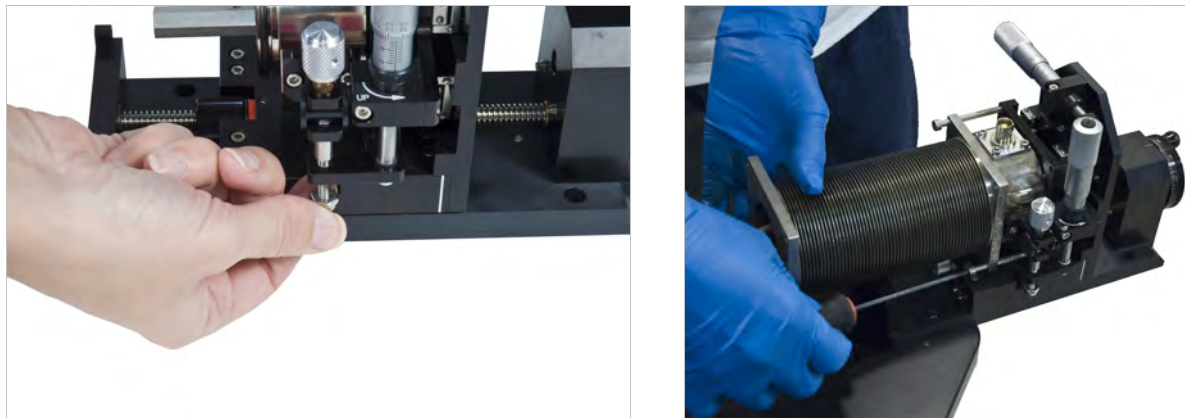

FIGURE 5-25 Left: Thread the nut onto the bottom of the shaft; Right: Tighten the four long horizontal M4 screws
6. Using small pliers or an adjustable wrench, thread the nut onto the bottom of the shaft until the end of the shaft is flush with the nut (FIGURE 5-25).